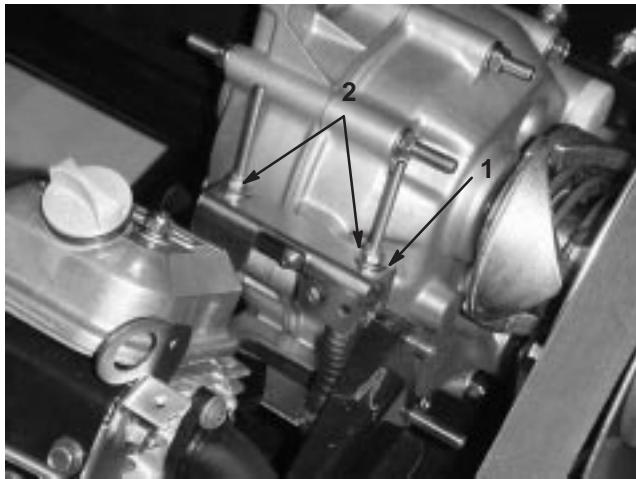

Figure 21
2. Ensure that the neutral bracket is in the neutral position (level) by turning the drive clutch (Fig. 21). The vehicle should not roll back and forth. If it does, manually move the neutral bracket to the neutral position.
3. Tighten one of the locknuts (Fig. 21) just enough to take the slack out of the shift cable.